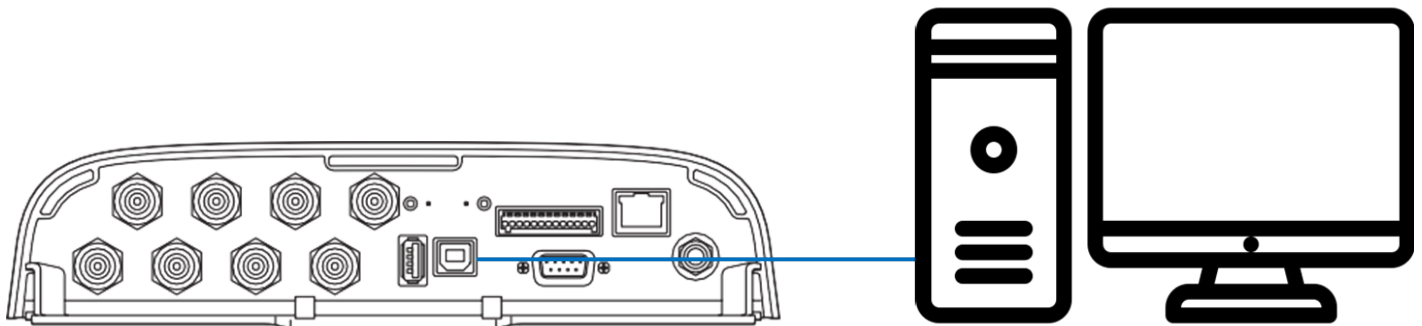

Figure 3.3 FR900 USB Connection (management)
5. On the Putty Configuration dialog, shown in Figure 3.3, verify that Serial line to connect to is set to COMX